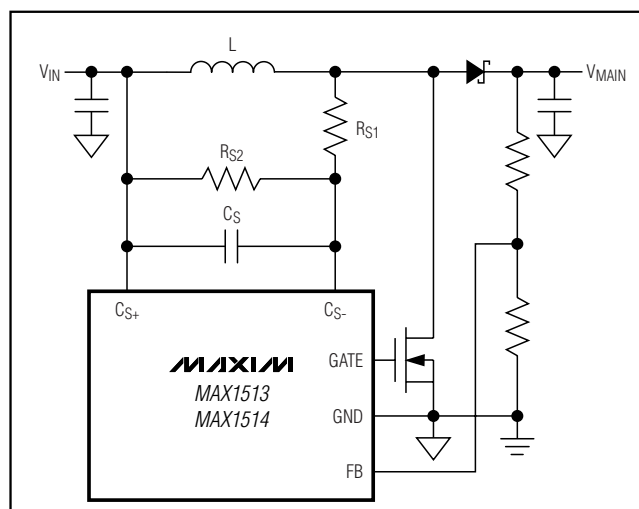

Figure 9. Lossless Current Sensing with $V_{SENSE} > 100mV$
5) If V_{SENSE} is greater than 100mV, the current-feedback signal is too high and can trip the current limit before the full load current is delivered. Use the current-sense configuration in Figure 9 to attenuate the sense signal. Define the scale factor (SF) as:
Because V_{SENSE} would be greater than $100mV$, the circuit in Figure 9 should be used and the scale factor is: